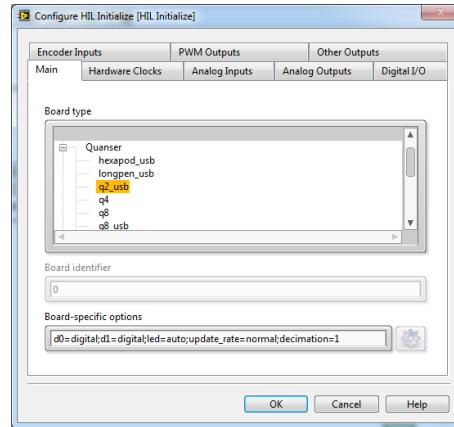

Figure 5.2: Select DAQ board that will be used to control system
6. Under the Main tab, select the data acquisition device that is installed on your system in the *Board type* section. For example, in Figure 5.2 the Q2-USB is chosen.